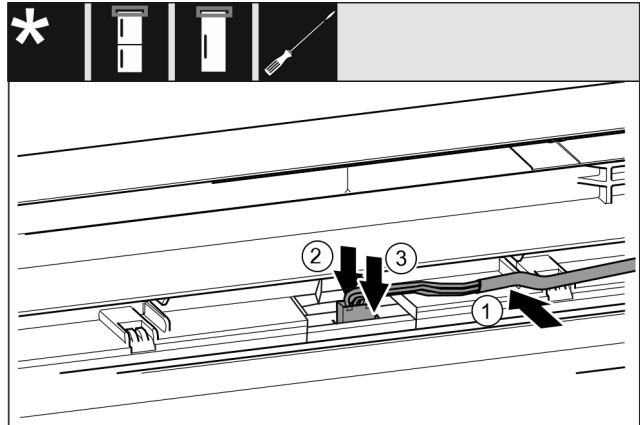

Fig. 63 Fridge/freezer combinations / freezers / refrigerators\*
- ▶ Insert the cable Fig. 63 [1] into the guide in the top door.\*
- ▶ Push the latching tab Fig. 63 [2] backwards.\*
- ▶ Engage the plug Fig. 63 [3].\*